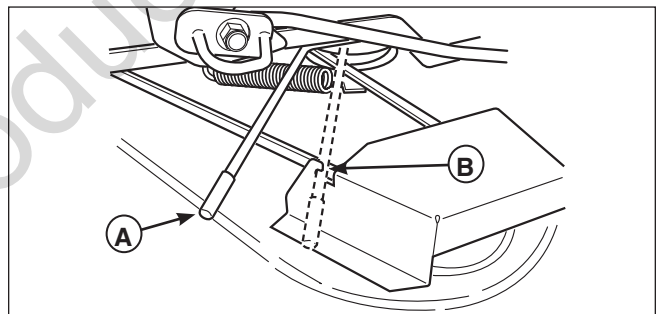
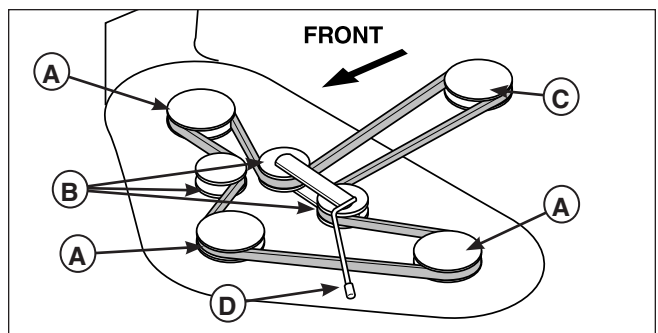

Figure 43. Release Belt Tension
Figure 44. Mower Belt Routing
1. Pull the lever (A, Figure 43) towards the rear of the machine to release tension on the mower belt. Secure the lever in the guard notch (B).
2. Remove the old drive belt and install the new one as shown in Figure 44. Note that the back of the drive belt must ride against the back-side idler pulleys (B). Use the belt tension lever (A, Figure 44) to release tension on the idler pulley for installation.
1. Pull the lever (A, Figure 43) towards the rear of the machine to release tension on the mower belt. Remove the belt from the PTO pulley (C, Figure 44).
2. Remove the old drive belt and install the new one as shown in Figure 44. Note that the back on the drive belt must ride against the back-side idler pulleys (B). Use the belt tension lever (A, Figure 44) to release the tension on the idler pulley for installation.